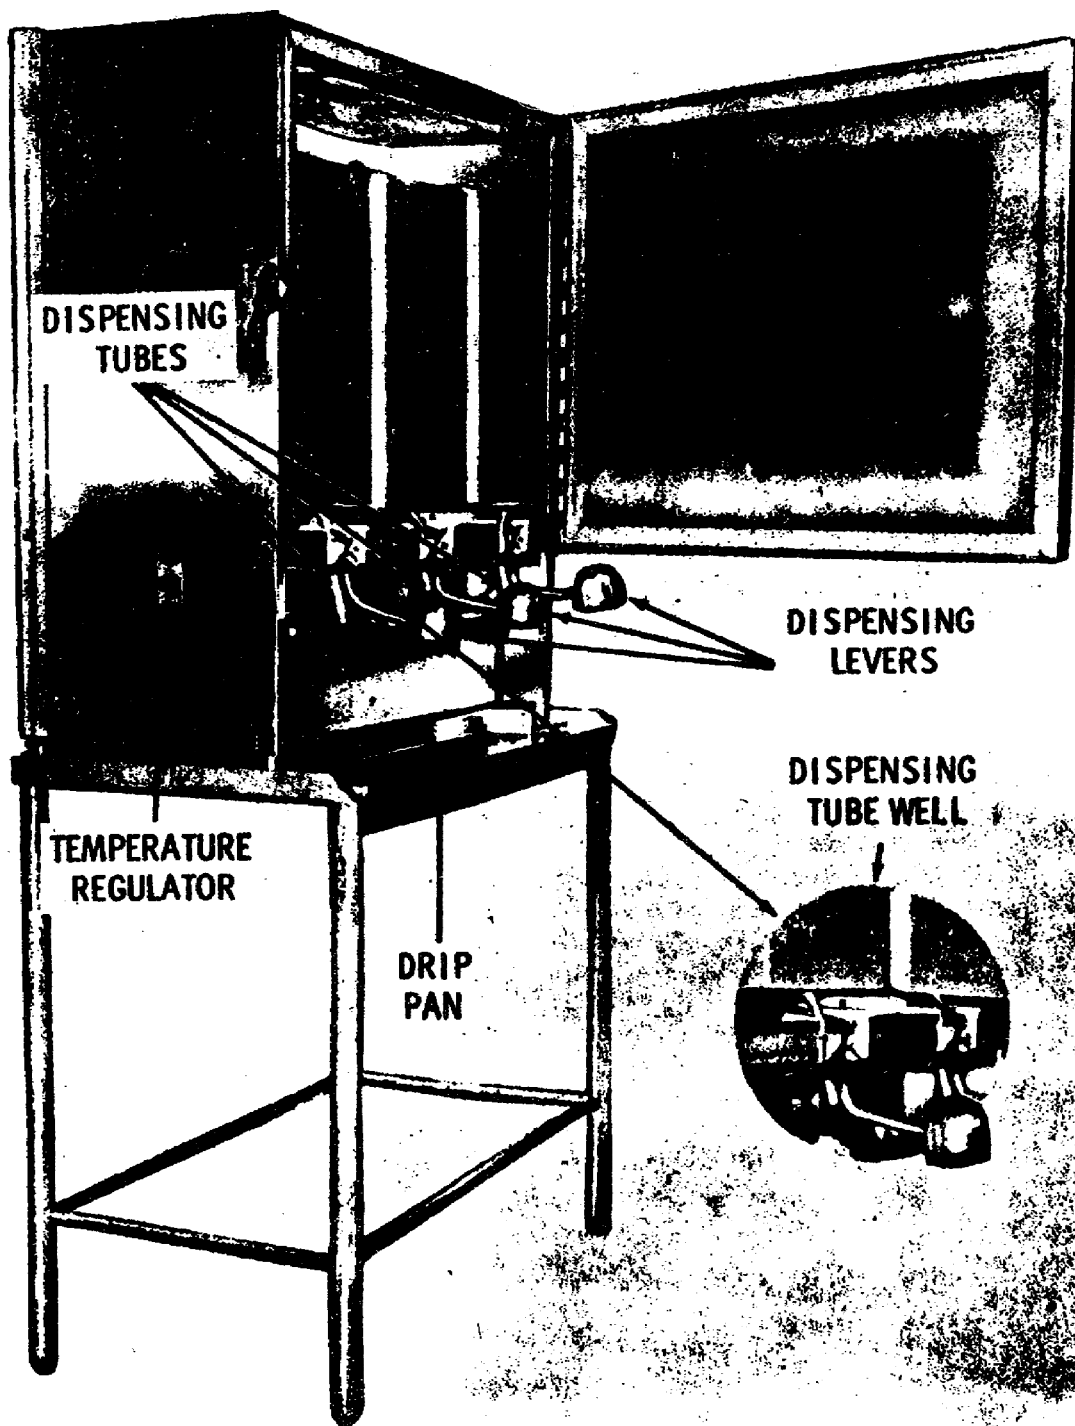

Figure 23. Milk dispenser.
23. MILK DISPENSERS. The bulk-milk dispenser (fig. 23) is a mechanically refrigerated storing and dispensing cabinet for milk. The dispenser, is an upright, rectangular cabinet mounted on four legs. The interior and exterior of the milk dispenser are stainless steel and the corners of the interior are rounded for easy cleaning. The cabinet is cooled by a self-lubricating compressor unit that maintains the temperature between 35° and 38° F. The cabinet holds three 5-or 6-gallon plastic bags of milk, each in a cardboard carton.